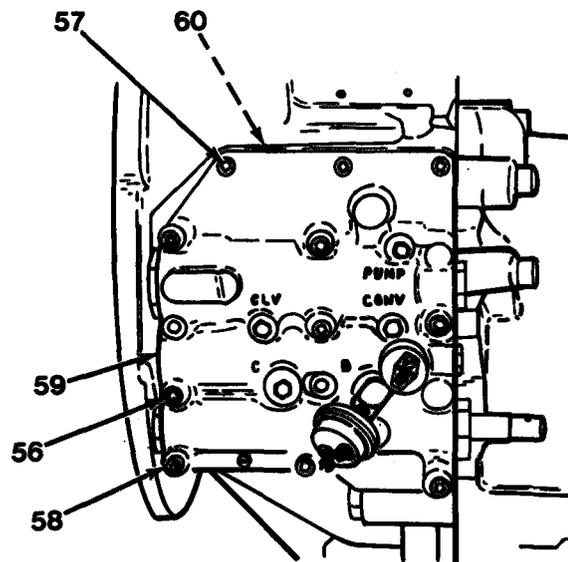

Figure 11-14
33. Remove 10 capscrews (56), 3 capscrews (57), 13 plain washers (58), control valve assembly (59) and gasket (60, Figure 11-14). Remove all gasket material from mounting surfaces.